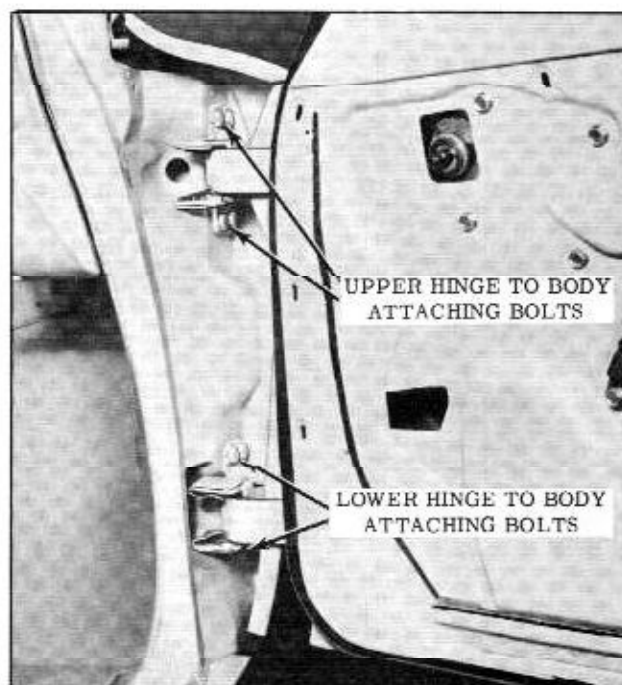

Fig. 15-27 Front Door Hinge Attachment to Cowl
5. With aid of a helper to properly support door, remove bolts securing upper and lower hinges to body and remove door assembly with attached hinges from body. (Fig. 15-27)
3. Loosen hinge attaching bolts and shift door to desired position; then tighten hinge attaching bolts. (Fig. 15-27)